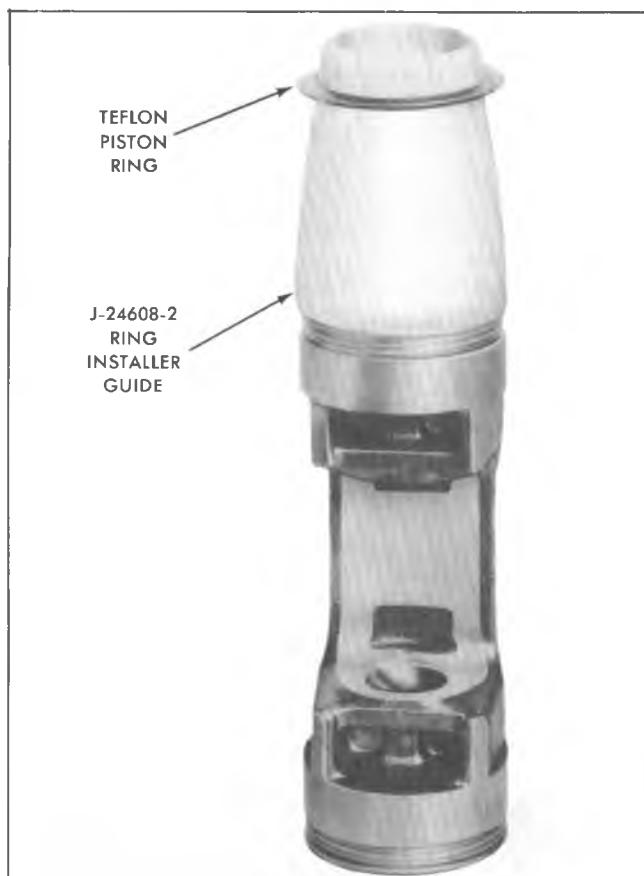

Fig. 45--Teflon Piston Ring Positioned on Ring Installer Guide
3. Set the piston on end on a clean, flat surface and install the Ring Installer Guide J-24608-2 on the end of the piston (Fig. 45).
4. Install a Teflon ring on the Ring Installer Guide J-24605-2 as shown in Fig. 45, **with the dished or dull-side down and glossy-side up.**